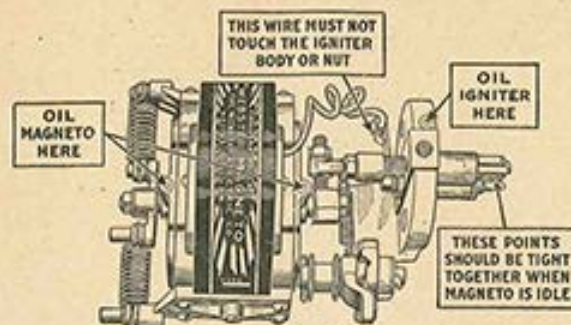
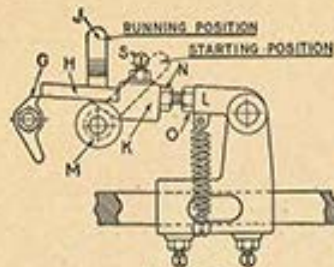

Figure 15.
Figure 16.
When attaching battery, use a make and break spark coil connected between the battery and the engine and use a switch so you can shut off the current. Attach the wire that comes from the coil to the terminal on the igniter (Figure 15) and the other wire to the bracket bolt under the magneto. Do not take off the magneto.
**Third.** Place the tripping lever "A" (Figure 11, page 29) on the magneto and cock the springs as shown. Be sure the timing lever "J" (Figure 16) is in the running position.
**Fourth.** See that the screws which fasten the clamp to the push rod are tight and that the screw nearest the cylinder head is in the hole in the bottom of the cam rod, then adjust the length of push rod "H" (Figure 16) until the end of the rod touches the push finger "G." Tighten locknut "O."
**Sixth.** Take off the tripping lever, be sure the magneto wire is fastened to the terminal (Figure 15, page 31). Turn the flywheels to the right to see if the magneto trips off when the word **Spark** is opposite the top of the cam rod. If not, adjust the wedge "K" (Figure 16) carefully until it does. To make engine fire earlier, move wedge "K" toward magneto. To fire later, move wedge "K" away from magneto.